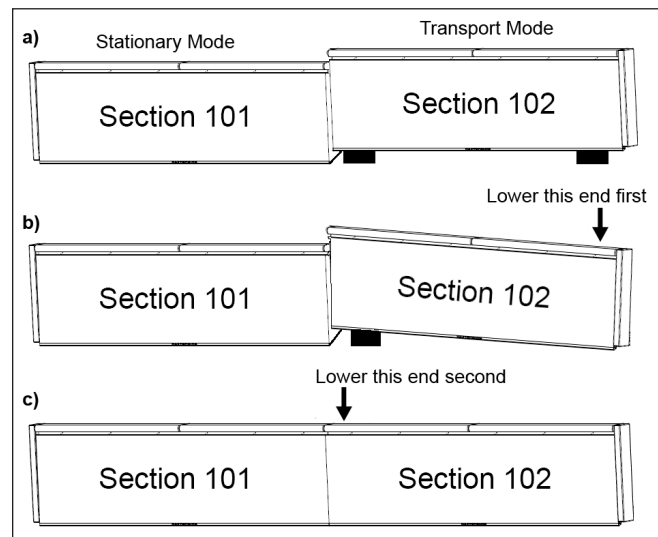

Figure 35: Multiple Table Positioning
3. Position the tables together as described below and shown in **Figure 35**: